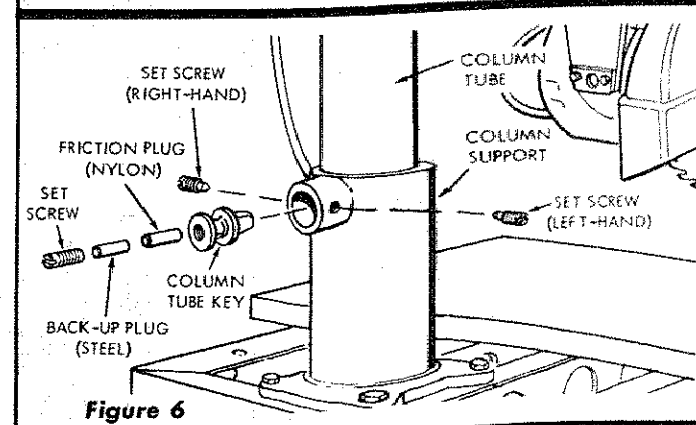
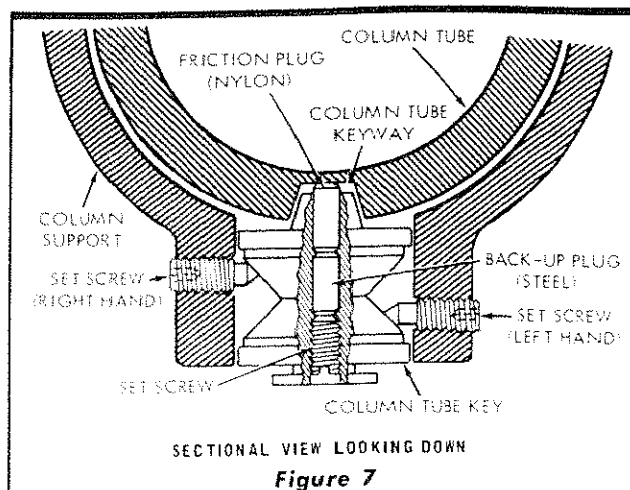
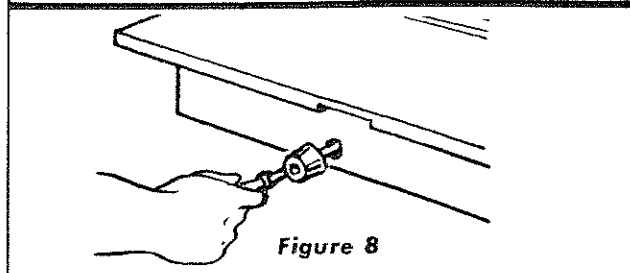

Figure 6
Figure 7
Figure 8
NOTE: Before attempting to adjust the column tube key, the function of this adjustment should be understood. Figure 6 is an exploded view of column tube key parts and figure 7 is a sectional view through the column
- Loosen set screw in center of column tube key. (See figures 6 and 7.)
- Loosen left-hand set screw 1/4 turn. (See figure 7.)
- Tighten right-hand set screw. (See figure 7.)
- Tighten left-hand set screw. (See figure 7.)
- Turn elevation crank to raise and lower radial arm. (See figure 8.) If too tight, loosen right-hand set screw (figure 7) slightly and check again for smooth operation. When correct, tighten left-hand set screw.
- Tighten set screw in center of column tube key (figure 7) until smoothest operation is obtained.